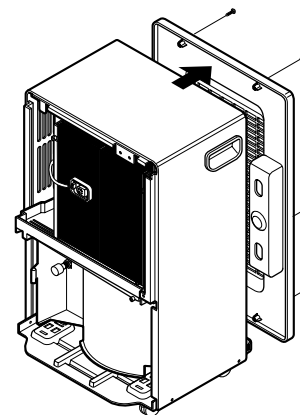

Figure 11
4. Remove the rear grille. (See Figure 11)